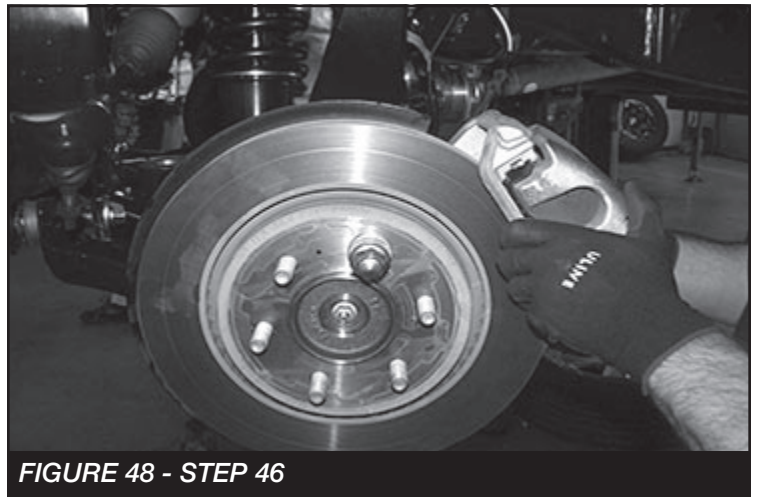

FIGURE 48 - STEP 46
46. Reinstall the original brake rotor, followed by the brake caliper. Use a small amount of the supplied thread lock compound on the caliper bolts and torque to 145 ft-lbs. **SEE FIGURE 48**